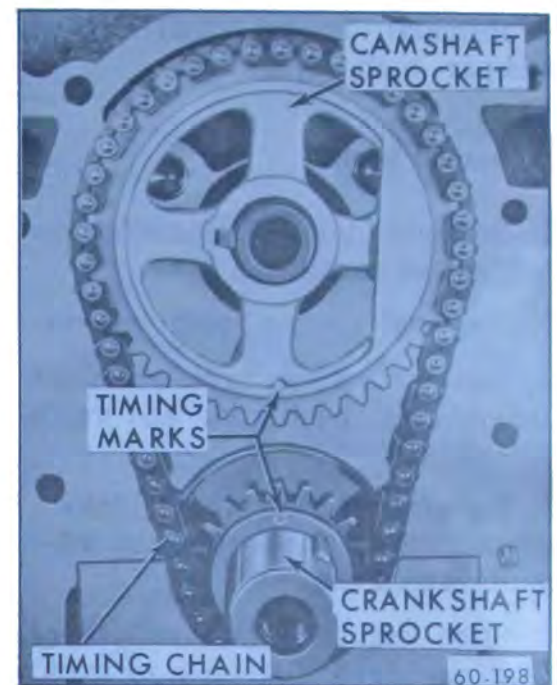

Figure 60-238—Installation of Timing Chain and Sprocket
bolt and washer in end of crankshaft. Turn crankshaft so sprockets are positioned as shown in Figure 60-238. Remove harmonic balancer bolt and washer using a sharp blow on the wrench handle, so that the bolt can be started out without changing position of sprockets.
2. Turn camshaft so with sprocket temporarily installed, timing mark is straight down. See Figure 60-238. Remove sprocket.
line with the sprocket hubs. See Figure 60-238.